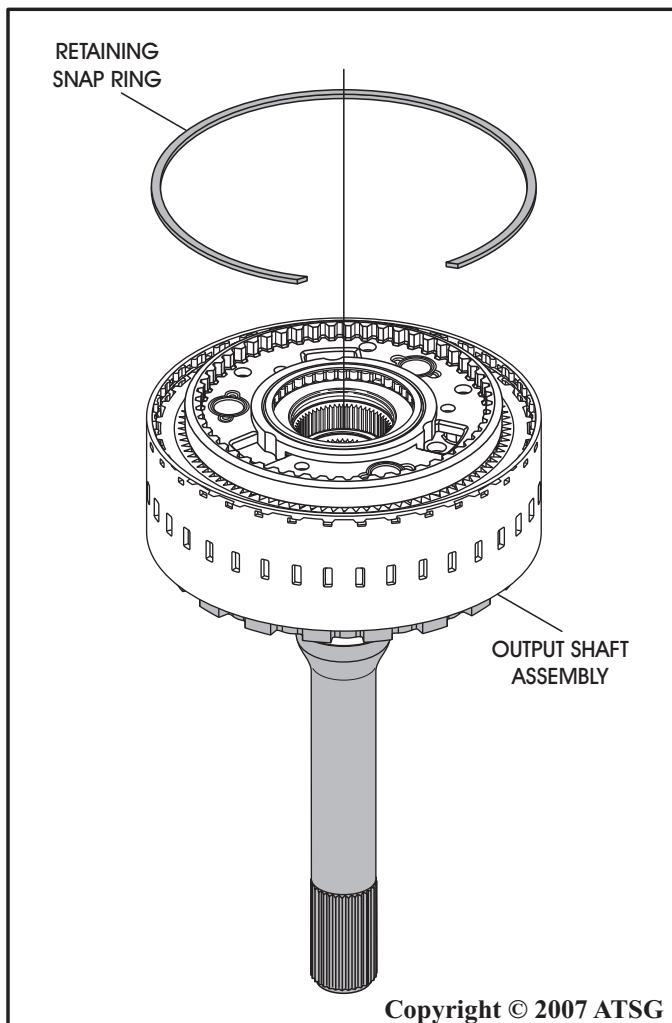

Figure 132
22. Turn the entire output carrier and output shaft assembly over and install the last retaining snap ring, as shown in Figure 132.